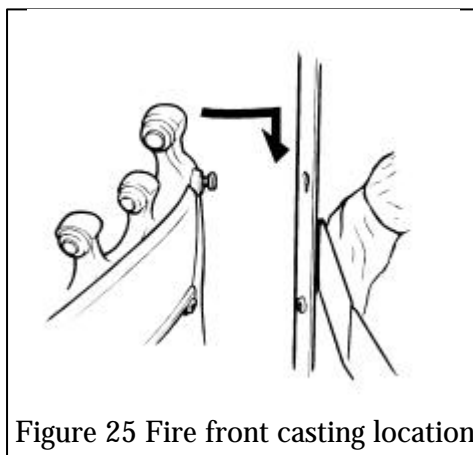

Figure 25 Fire front casting location
**12.1** All models except black & chrome front casting Fit the fire front casting to the front surround. Locate the two screw heads at the rear top corners of the casting through the keyhole slots at the inner sides of the surround. If the screw heads do not project enough or project too far, the screws can be adjusted. Lower the casting so that it rests on the hearth (see figure 25).